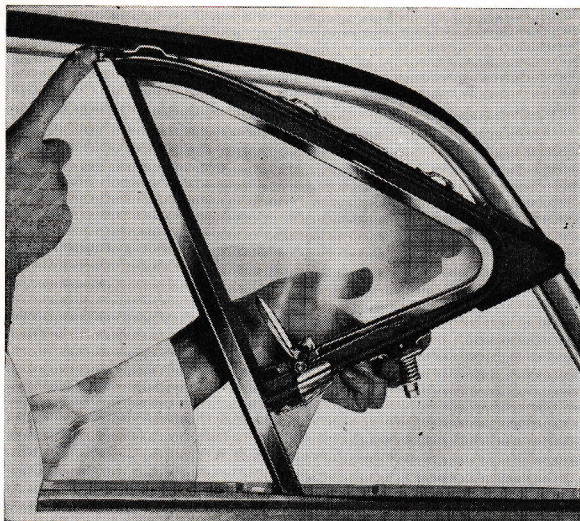

Fig. 24. Lifting up the ventilation window.
5. Lift up the window as shown in Fig. 24.